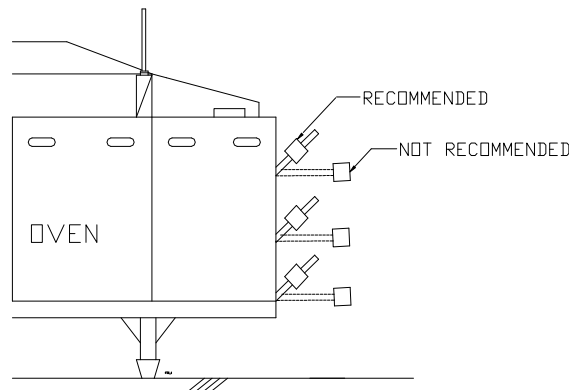

FIG. 1
- C. Slide and lock the counter weights to the finest possible position wherein the belt drive is constant and not slipping. This adjustment is best achieved when oven is hot and fully loaded with product. (See Figure 1.)